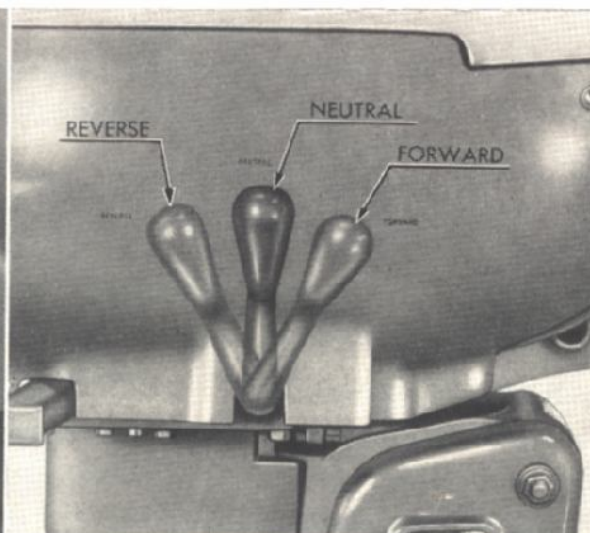

Figure 8
Shifting is accomplished by an arrangement of gears in the gearcase through linkage with the shifting lever conveniently located for ease of operation (Fig. 8).
2. *Move gear shift lever to center or "neutral" position (Fig. 8).*